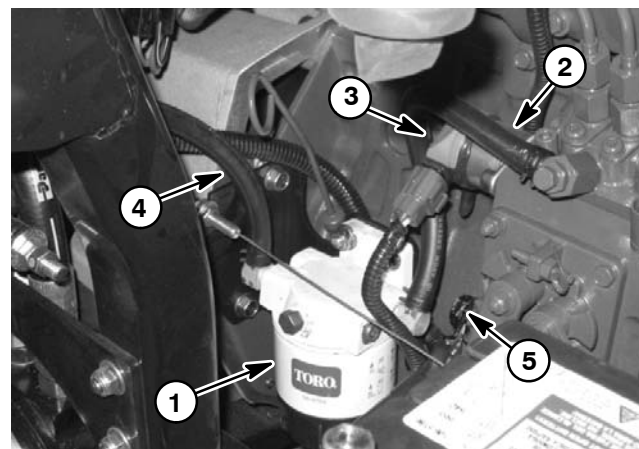
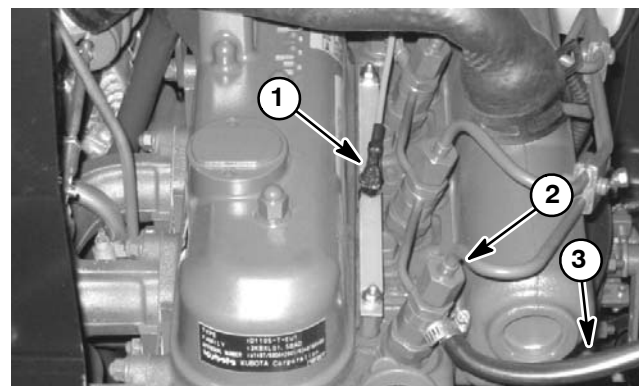

Figure 11
Figure 12
- A. Negative battery cable, wire harness ground and fuel stop solenoid (Fig. 11).
- B. Glow plug bus (Fig. 12).
11. Disconnect fuel supply hose at injector pump (Fig. 11). Disconnect return fuel hose from front injector nozzle (Fig. 12). Plug and position disconnected hoses to prevent fuel leakage.
8. Secure flywheel housing and fuel/water separator bracket to engine endplate with eight (8) flange head screws and two (2) socket head screws.
9. Secure engine to the engine mounts attached to the frame with two (2) cap screws, snubbing washers and lock nuts.
10. Connect fuel hoses to the fuel/water separator (Fig. 11). Connect return fuel hose to front injector nozzle (Fig. 12).